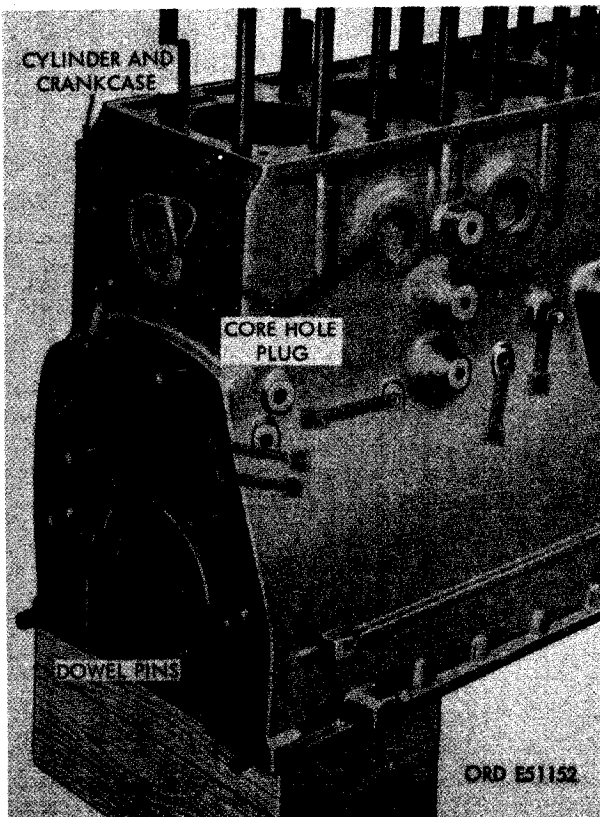

FIGURE 318. REMOVING OR INSTALLING CYLINDER AND CRANKCASE PIPE PLUGS - RIGHT REAR VIEW.
- (1) Figure 318. (A) Remove two 1/8-inch hex-socket pipe plugs. (B) Remove 3/8-inch square head pipe plug. (C) Remove 3/8-inch hex-socket pipe plug. (D) Remove 1/4-inch hex-socket pipe plug.